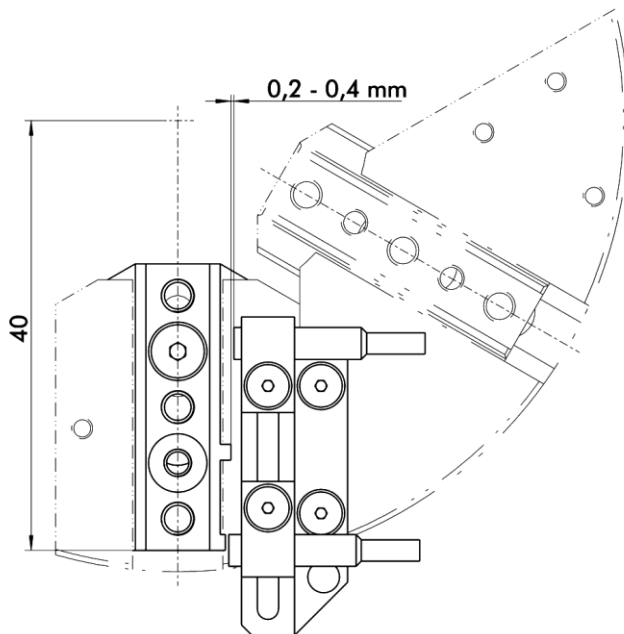

Figure 57: Step 4.0 Setting of proximity switch
- The position of the proximity switch S2 cannot be radially adjusted further to the outside on the retaining plate (item 21).
To monitor additional positions "gripper OPEN", the proximity switch must be released from the bracket (item 22). The bracket (item 22) must be turned by 180° before the proximity switch is fastened in the bracket again (see Figure 57).